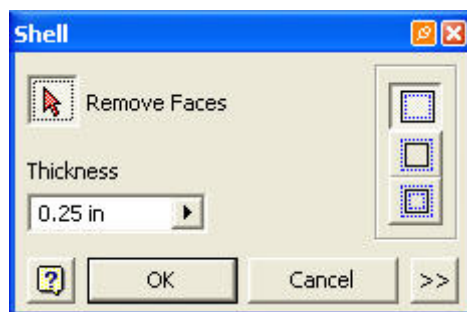

Figure 4
5. Set the wall **Thickness** to .25 in. as shown in Figure 4. For this part the back walls need to be a thickness of .375 due to structural requirements from the addition of a handle to be placed on the back.